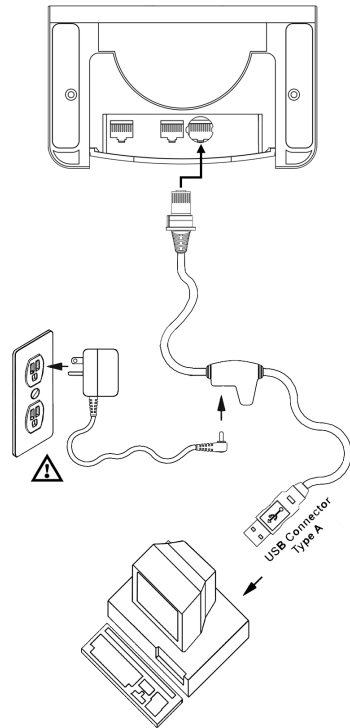

Figure 6. USB, Interface
1. Connect the keyed VLink cable to the 10-pin Multi-Interface jack. It is the only circular keyed jack located on the bottom of the MS7820 (see figure 6).